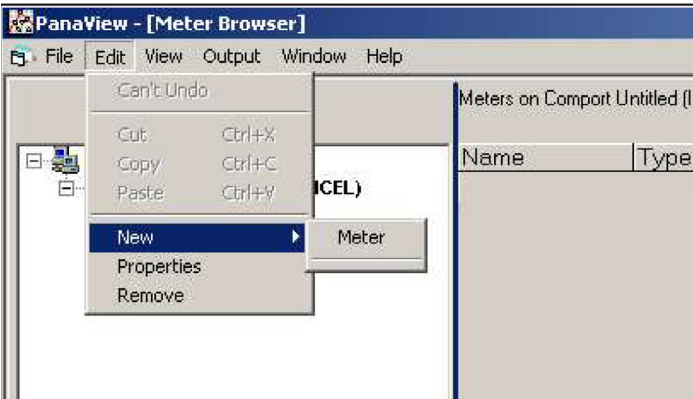

Figure 79: "New" option in the "Edit" menu
2. Click on the "New" option in the "Edit" menu (see Figure 79 below).